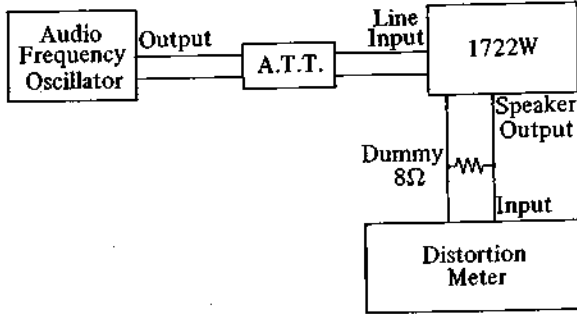

Fig. 5
- 1) Connect the various instruments as shown in Fig. 5. Load a Scotch #211 tape and set Tone control to "MAX" position.